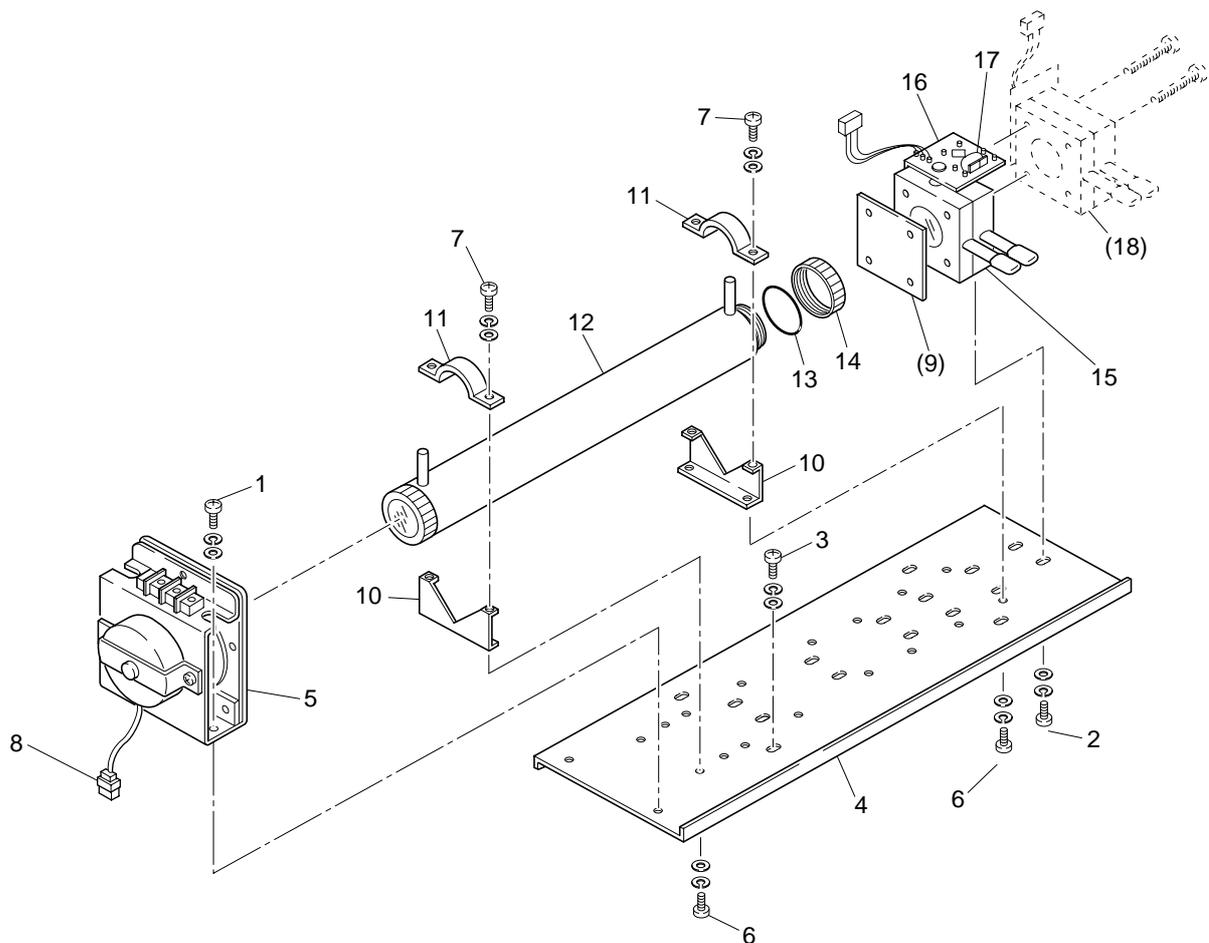

Fig. 5-1 Composition of measurement unit (pipe cell)
There may be a case where both cells of the two-component analyzer may be included in the optical system. In this case, remove the pipe cell, and then the block cell. (See Fig. 5-1.)
(1) Cleaning the pipe cell (See Fig. 5-1.)
- 4) Loosen the screw (No.1 in Fig. 5-1) that fastens the infrared ray light source unit (No.5 in Fig. 5-1) to create a gap between the unit and the pipe cell (No.12 in Fig. 5-1).
- 5) Remove the screw (No.7 in Fig. 5-1) of the cell presser (No.11 in Fig. 5-1) fastening the pipe cell.
- 6) Remove the cell, and then remove the windows on both sides (No.14 in Fig. 5-1). The screw of the window is right-handed.